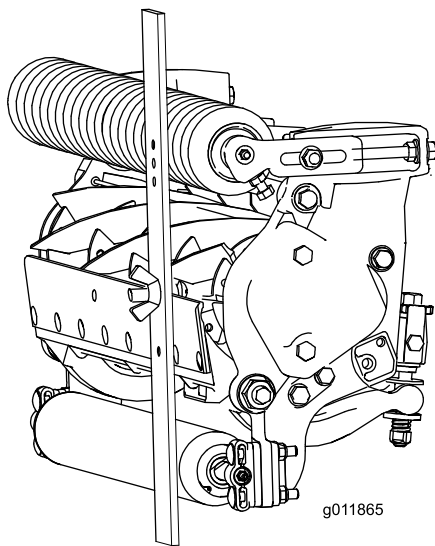

Figure 18
3. Hook the screw head on the cutting edge of the bedknife and rest the rear end of the bar on the rear roller (Figure 18).
4. Rotate the adjusting screw until the front roller contacts the gauge bar (Figure 18). Adjust both ends of roller until the entire roller is parallel to the bedknife.